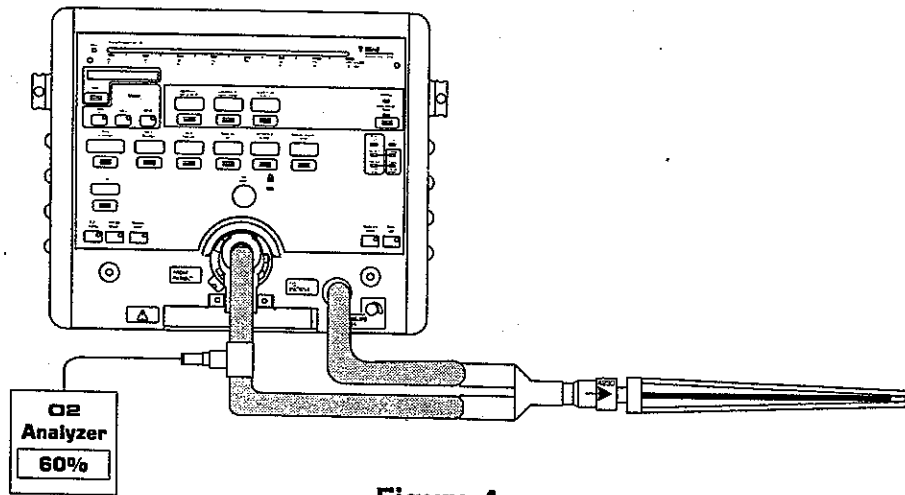

Figure 4
- 7.1 Connect a patient circuit and O₂ analyzer as shown in figure 4.